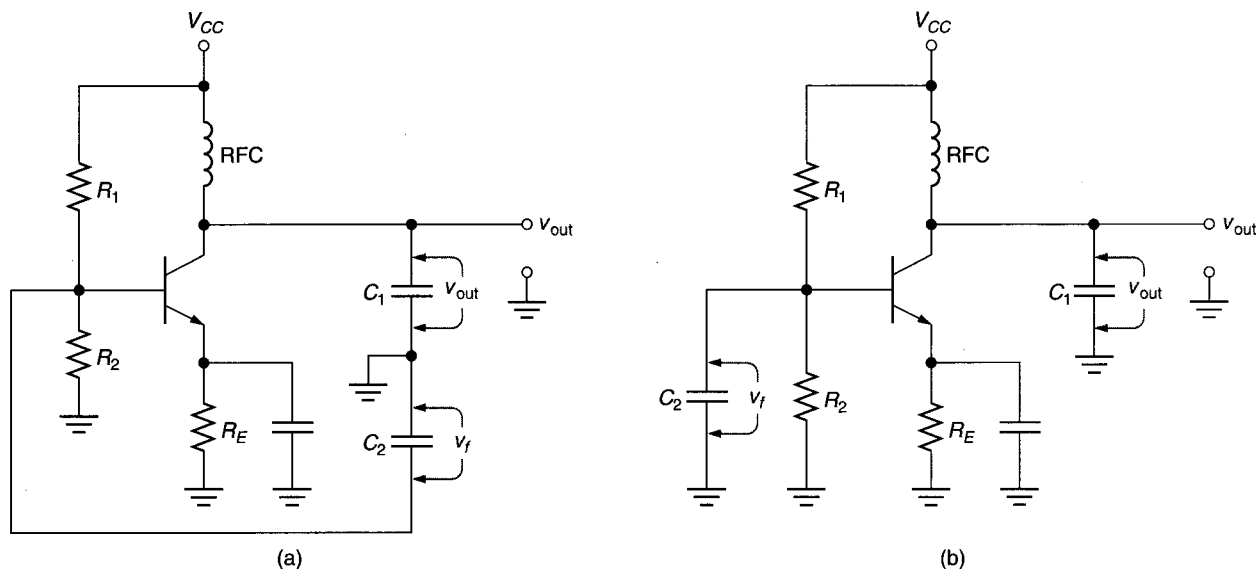

FIGURE 18.11
Points 1 and 2 are easier to see if we simplify the circuit as shown in Figure 18.11. In Figure 18.11a, we have dropped the inductor ( $L$ ) from the circuit. Then, in Figure 18.11b, we split the capacitors at the ground connection. As you can see, the input voltage to the amplifier is developed across  $C_2$ . Therefore,  $C_2$  must be the source of the feedback voltage.  $C_1$  is obviously across the output of the amplifier. Therefore,  $v_{out}$  is measured across this component. Now, the trick is to see how the voltages across these two components are always  $180^\circ$  out of phase.
Figure 18.11 demonstrated the fact that  $C_1$  and  $C_2$  are in series. Therefore,
**Note:** This is the circuit developed in Figure 18.11 with added BJT capacitances. The coupling capacitors and emitter circuit have been shorted as they typically are in ac equivalent circuits.